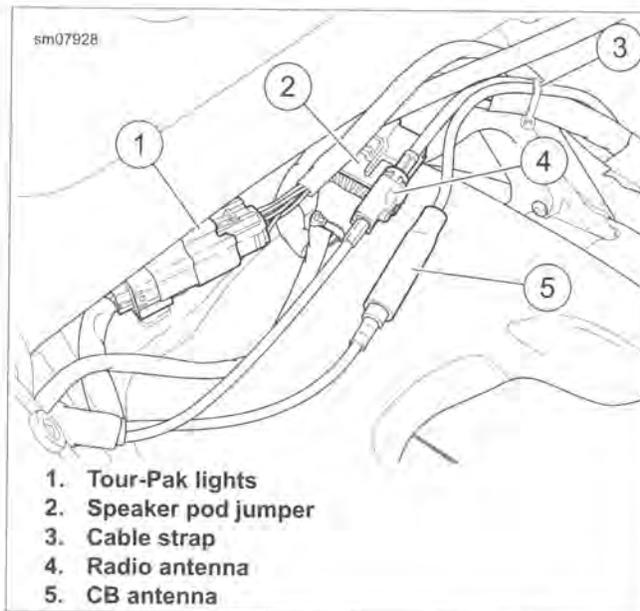

Figure 7-92. Tour-Pak Harness Connectors
5. See Figure 7-92. Disconnect antenna cable connector at rear fender.
6. Cut cable strap (3). Remove antenna cable.
- See Figure 7-92. Mate antenna cable connectors at top of rear fender. Install cable strap (3).